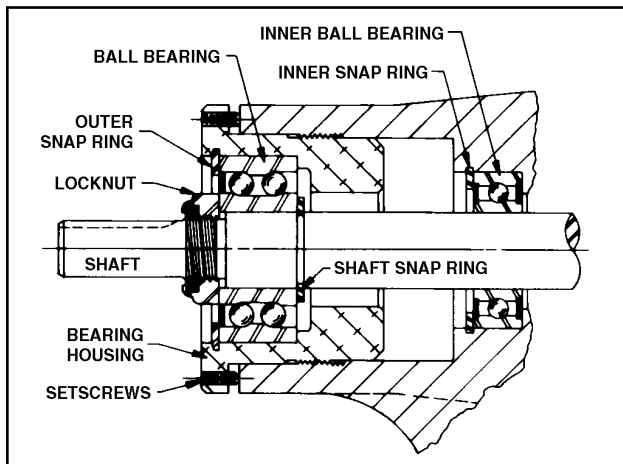
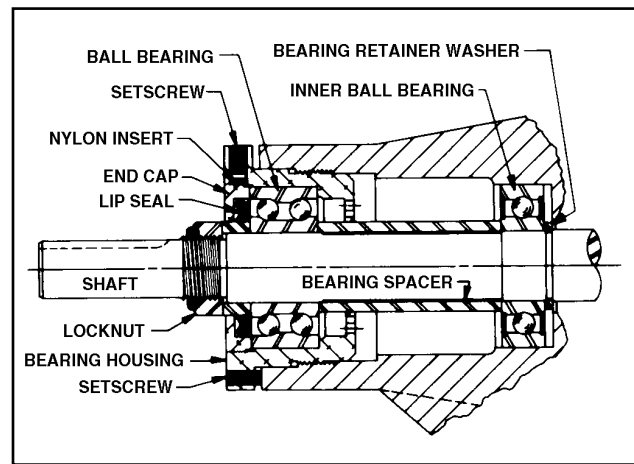

Figure 21. Thrust-Bearing assembly (GG, HJ, HL)
Figure 22. Thrust-Bearing assembly (AS, AK, AL)
the locknut counterclockwise and remove locknut. See Figure 21 or 22.
6. Loosen two setscrews in face of bearing housing and turn thrust bearing assembly counterclockwise and remove from casing. See Figure 21 or 22.
7. **GG, HJ, HL:** Remove snap ring from shaft. See Figure 21. **AS, AK, AL:** Remove bearing spacer from shaft. See Figure 22.
10. **AS, AK, AL:** Remove bearing retainer washer. The washer may have stayed with rotor and shaft when removed or is against ball bearing. See Figure 22.
GG, HJ, HL: Remove outer snap ring from bearing housing and remove ball bearing. See Figure 21.
AS, AK, AL: Loosen two set screws in flange outside diameter. Rotate end cap and lip seal counterclockwise and remove. Remove ball bearing. See Figure 22.
AS, AK, AL: Install bearing spacer over shaft and against single-row ball bearing. See Figure 22.
13. Pack lubrication chamber between inner ball bearing and double-row ball bearing in the thrust-bearing assembly approximately one-half full of multipurpose grease, NLGI #2. The thrust-bearing assembly will take the remaining space. See Figure 21 and 22.
GG, HJ, HL: Install ball bearing into bearing housing with shield side toward coupling end of shaft. See Figure 21. Install snap ring into bearing housing to retain ball bearing. This snap ring has a tapered edge to fit tapered groove in bearing housing. The tapered edge is located away from ball bearing.
AS, AK, AL: Install ball bearing into bearing housing. Install lip seal in bearing housing end cap. The lip should face towards end of shaft. Put bearing spacer collar in lip seal and install in bearing housing and tighten setscrews securely. See Figure 22.
See Figures 21 and 22.